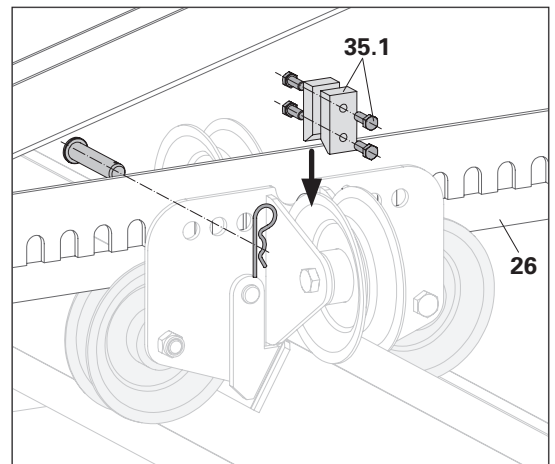

Fig. A9.05a – Bolts and cotter pins only on fixed bearing
2. Secure blocks with 2 bolts M12 x 30 (35.1) respectively – 2x. (Fig. A9.05a)
3. Insert bolts through the designated recess of the carriage (35) and hole of the support (26), and secure with cotter pins. (Fig. A9.05a) → Fixed bearing. (Fig. A9.05b)